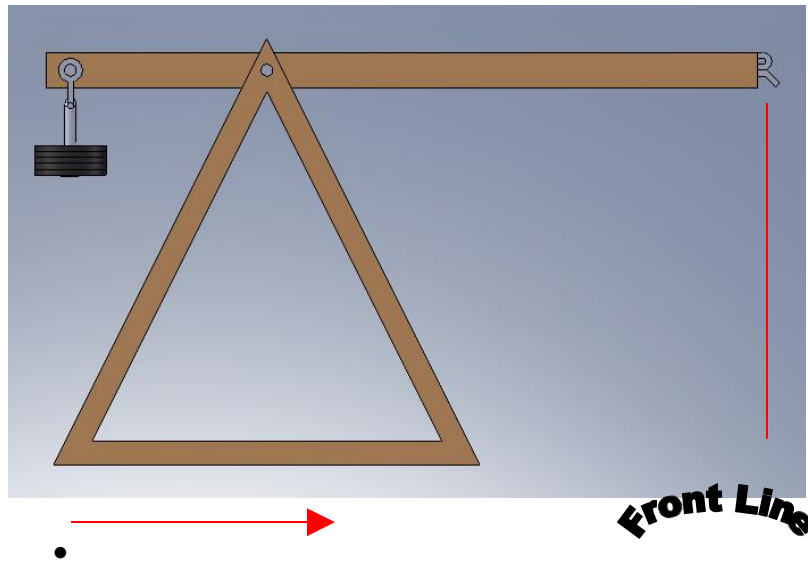

Figure 1. Diagram of the front line.
- No score will be recorded for a projectile that is launched behind the front line of the trebuchet. This score will be recorded as a zero (0). Please see figure 1.